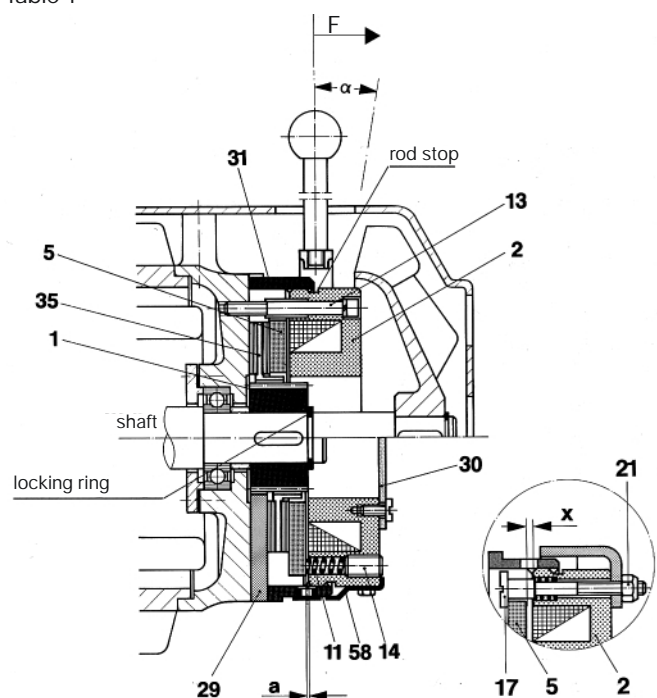

Fig. 2
If no suitable friction face is available, our flange plate (29, Fig. 2 bottom half) can be used.
The restoring bolts (17) limit the stroke of the armature disc (5) in braking direction. They may only be tightened by the lock nuts so that the armature disc (5) can carry out the stroke „X“ according to table 1 and figure 2 (detail).